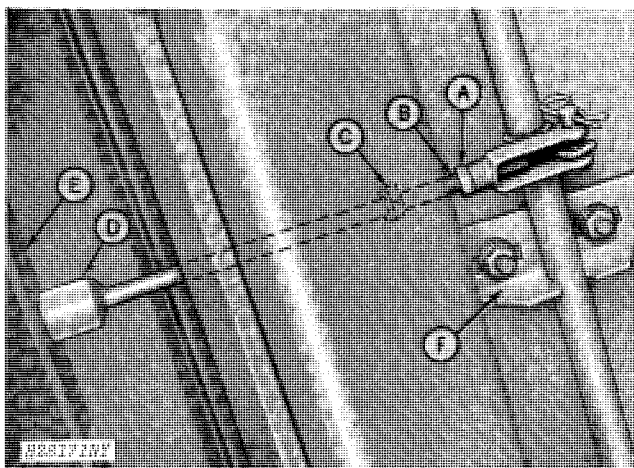

Fig. 107-Automatic Header Height Control Rod
3. Loosen lock nut "A" on actuating rod "B" (Fig. 107).
4. Raise row unit to maximum height and turn adjusting nut "C" on actuating rod until stop "D" lightly rests against row unit bracket "E." (Fig. 107).
5. Tighten lock nut "A" and lower row unit (Fig. 107). Repeat this procedure for each row unit.
6. Adjust stabilizer brackets "F" on control rod to maintain rod in a straight line, the length of the header (Fig. 107).